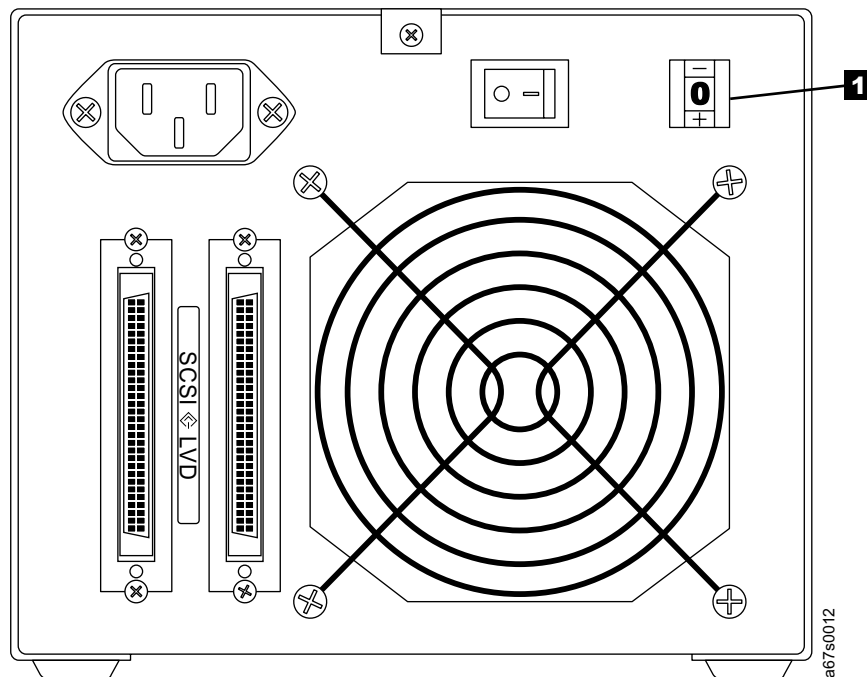

Figure 15. Checking the Setting on the SCSI Address Switch. The switch is located at the rear of the 3580 Tape Drive.
1. Check the SCSI address switch (**1** in Figure 15) to ensure that it is set to the SCSI ID that you chose in "Step 4. Setting the SCSI ID" on page 7.